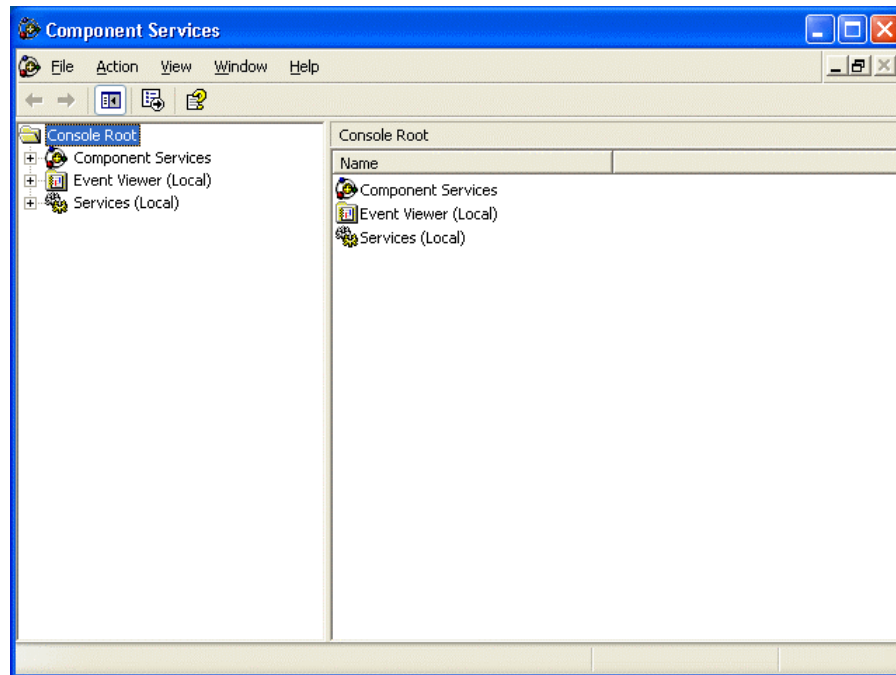

Fig. 6.3-18 Component Services Window
10. Double click on **Component Services**, then **Computers**. (Shown in Fig. 6.3-18.)